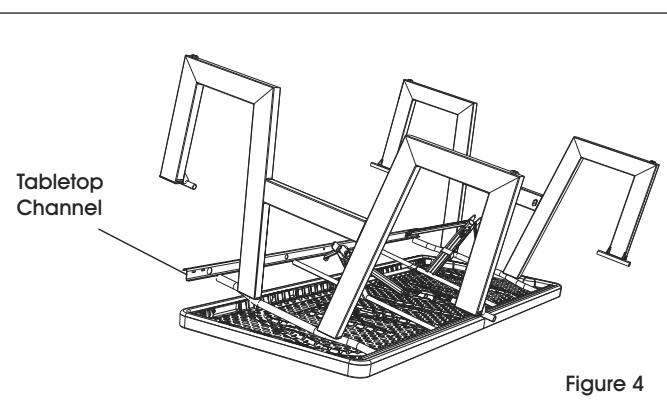

Figure 4
5. While one person helps hold leg assemblies in position, place the holes in the second tabletop channel over the tubes of the table legs and table leg braces. (See Figure 4)